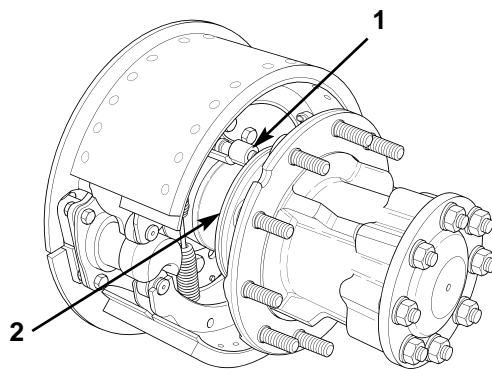

Figure 18. Positioning Wheel Sensor.
33. Push wheel sensor (figure 18, item 1) in until it contacts tone ring (figure 18, item 2).